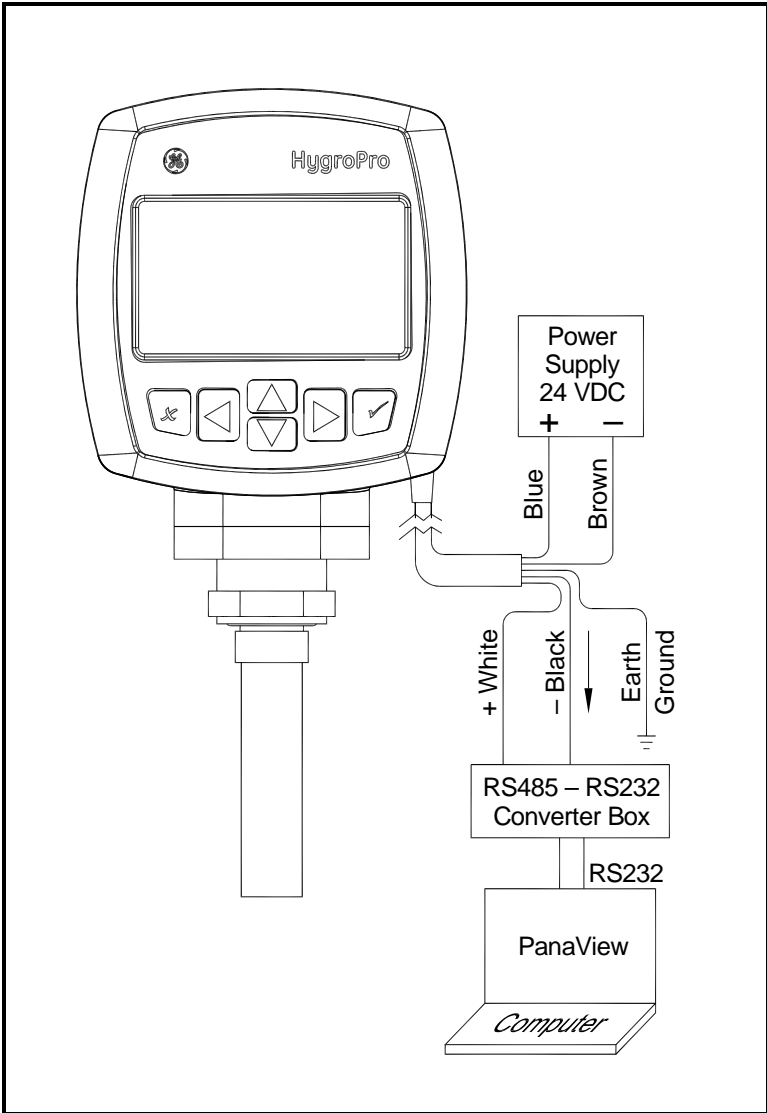

Figure 4: Digital Communications Wiring Connections
2. Using the flying leads at the other end of the transmitter cable, connect the transmitter to the power supply and computer as shown in Figure 4 on page 9. Refer to Table 2 below for a description of the leads in the factory-supplied cable.